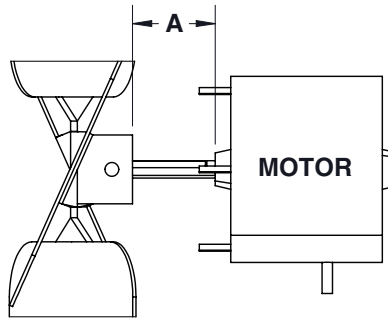

Figure 9. Fan and Motor Spacing (Refer to Table 8)
6. Ensure that fan is in proper position on shaft (see Figure 9) and setscrew is tightened in accordance with torque listed in Table 8.
*See Figure 9.